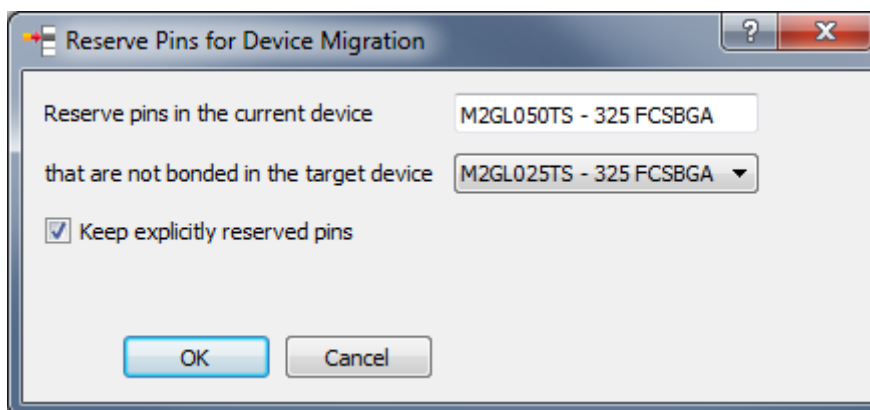

Figure 4 • Reserve Pins for Device Migration
2. Select the **Reserve Pins for Device Migration** option from the Tools menu. The window shown in Figure 4 is displayed.